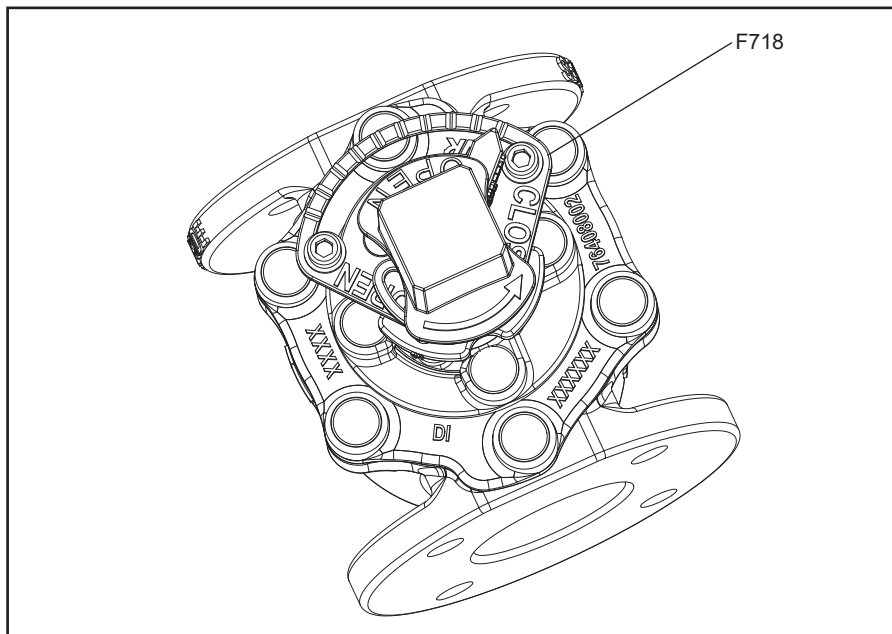

Fig. 5
3. Manually actuated valves have mechanical stops for the open and closed positions that are clearly marked on the Stop Plate (F718). There are also detents in the Stop Plate (F718), if valve throttling is desired. (See Fig. 5)